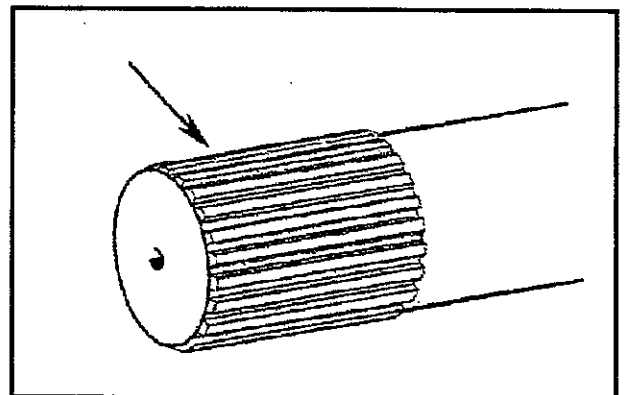

Figure 19—Spline Inspection Areas
4. Inspect all splines for excessive wear, distortion from twisting and cracking. (See Figure 19—Spline Inspection Areas.)